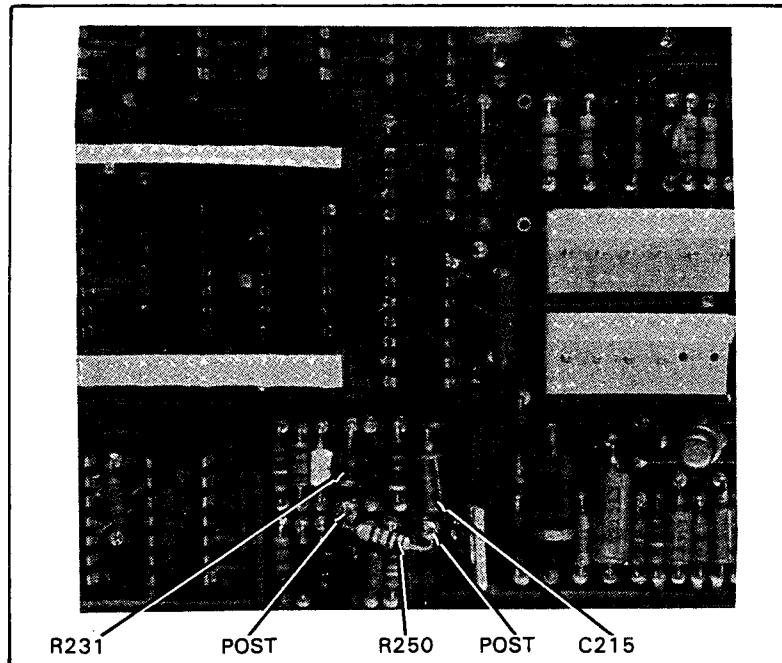

Figure 1. Adding A2R250 (P/N 0757-0443).
- Lift the grounded end of A2C215 (see Figure 1), insert a post, and resolder A2C215 to the post.
- b. Lift the end of A2R231 that is connected to A2R232 (see Figure 1), insert a post and resolder A2R231 to the post.
- c. Add A2R250 by soldering one end to each post (see Figure 1).